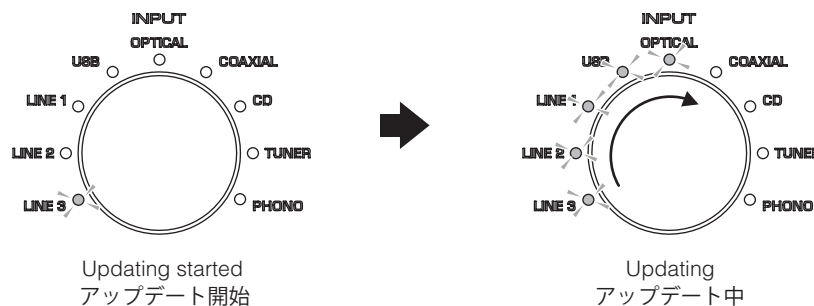

Fig. 3
- Play the firmware CD on the CD/DVD/BD player. Updating of the firmware starts automatically. (Fig. 3)